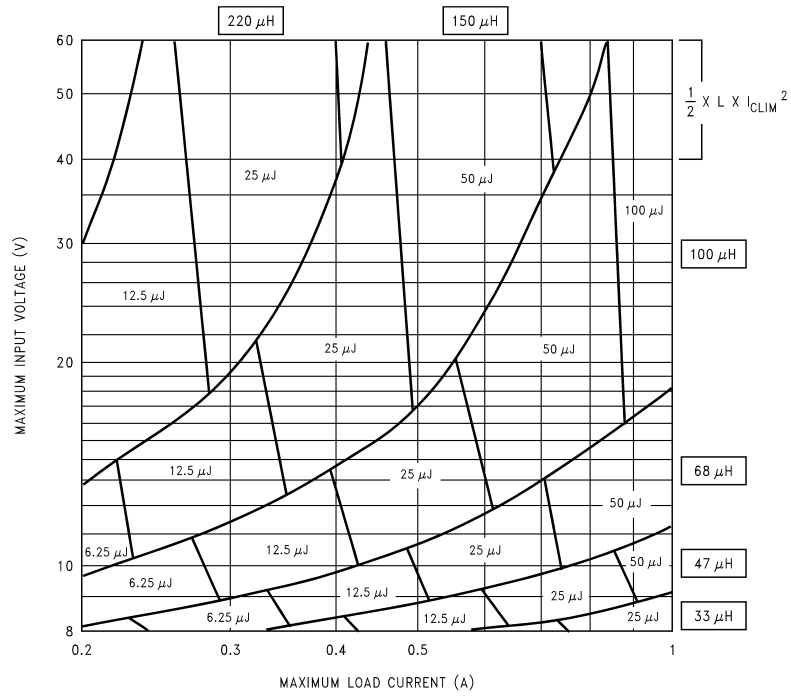

FIGURE 3. LM2591HV-5.0
1. A first pass inductor selection is based upon *Inductance and rated max load current*. We choose an inductor with the Inductance value indicated by the nomograph (*Figure 3*) and a current rating equal to the maximum load current. We therefore quick-select a 100 μH /0.8A inductor (designed for 150 kHz operation) for this application.
2. We should confirm that it is rated to handle 50 μJ (see *Figure 3*) by either estimating the peak current or by a detailed calculation as shown in AN-1197, and also that the losses are acceptable.
1. A first pass inductor selection is based upon *Inductance and the switch current limit*. We choose an inductor with the Inductance value indicated by the nomograph (*Figure 3*) and a current rating equal to I_{CLIM} . We therefore quick-select a 100 μH /3A inductor (designed for 150 kHz operation) for this application.